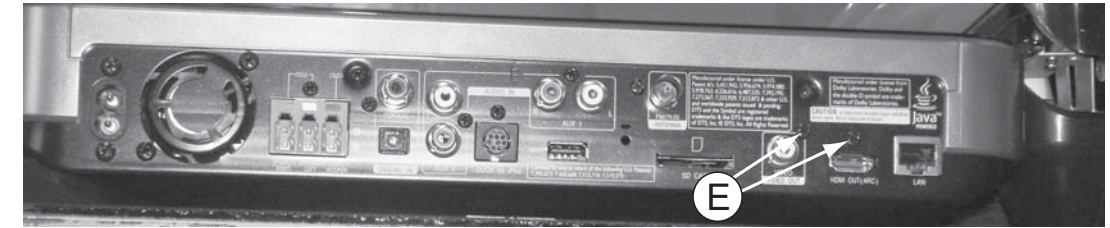

Figure 5
- 1) Loosen 2 screws "E" at the back panel as shown in figure 5.